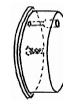
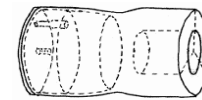

Fig. 4
Fig. 5
2. Using the cut-off piece left on the headstock, turn a jam chuck to receive the body, making sure to leave a lip at the end for the top of the vessel to butt against (Fig. 4). Reverse-mount the half-finished vessel on the jam chuck and drill a large hole (1/4") in the center of the bottom to ca. 5/16" from the bottom of the inside of the vessel (Fig. 5). This removes the bulk of the waste wood between legs and establishes the depth of the base of legs. Remove the vessel and part the jam chuck off, making sure the parted surface is true. Drill a hole (13/64") near the edge of the jam chuck (Fig. 4), preferably on a drill press. This hole determines how far the legs are from the center.